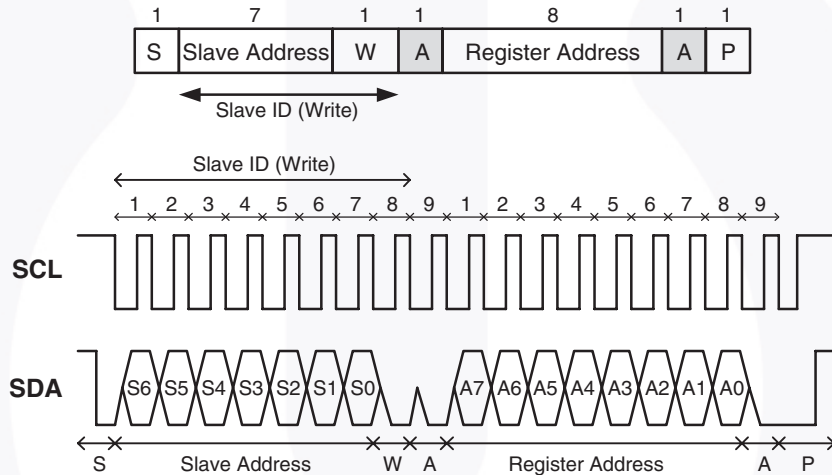
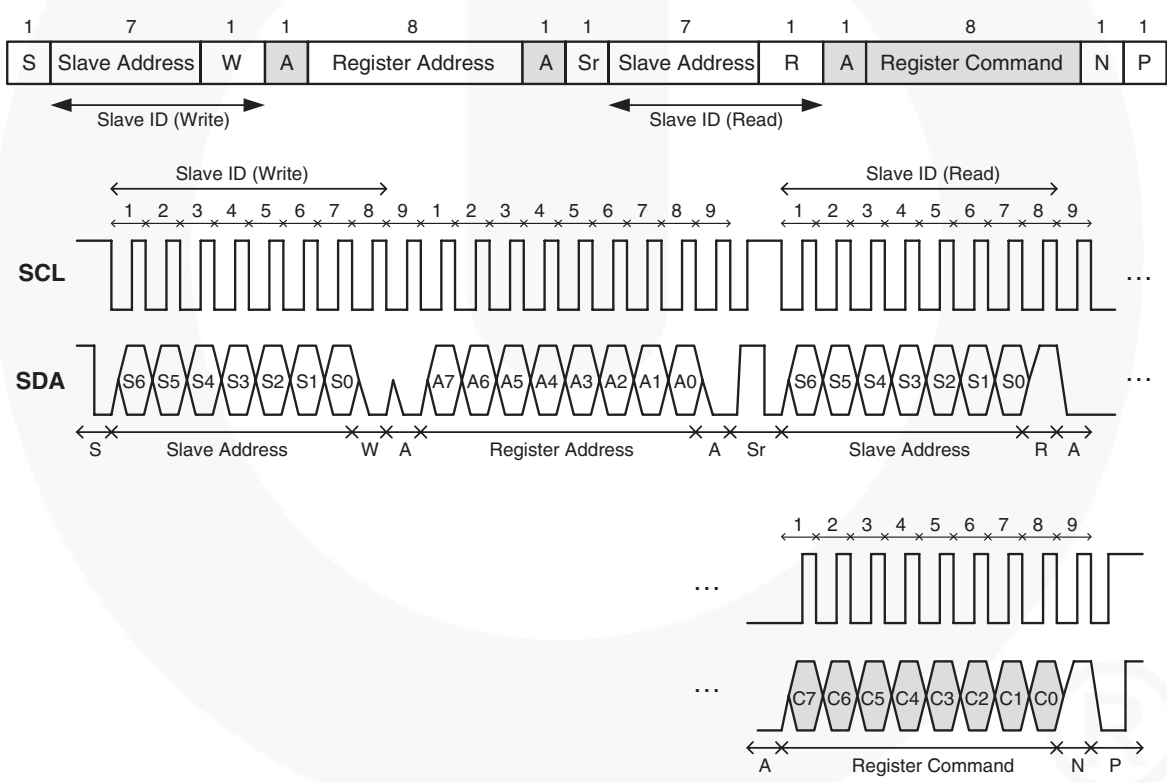

Figure 6. I2C Write Protocol (Type 1)
Figure 9. I2C Read (Combined Format) Protocol
- Figure 6 through Figure 9 outline the sequences for data read and write.